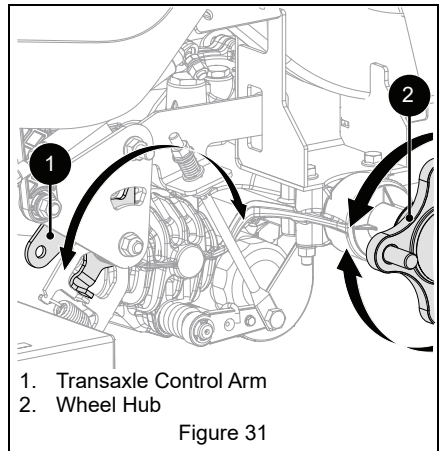

Figure 31
7. **Technician:** Slowly turn transaxle control arm in the opposite direction of hub rotation until hub stops. See Figure 31.